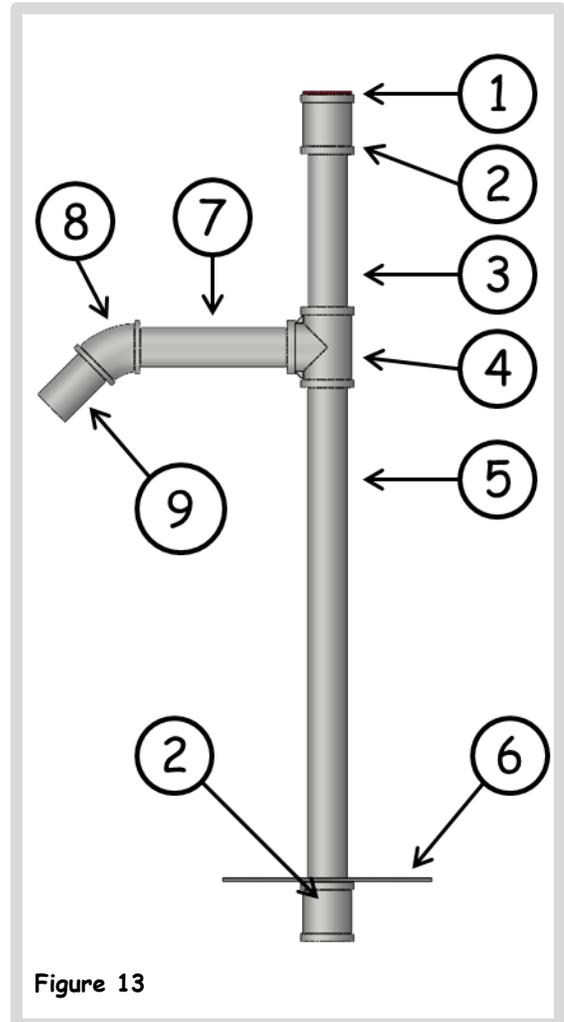

Figure 13
2. Connect all the parts in Figure 13 → except for the top cover (1) and the baseplate (2+6).